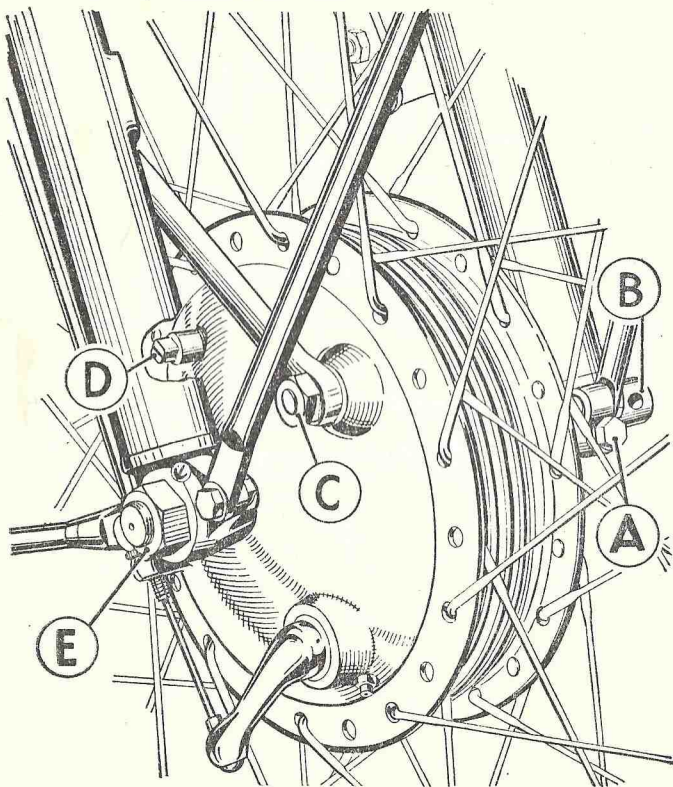
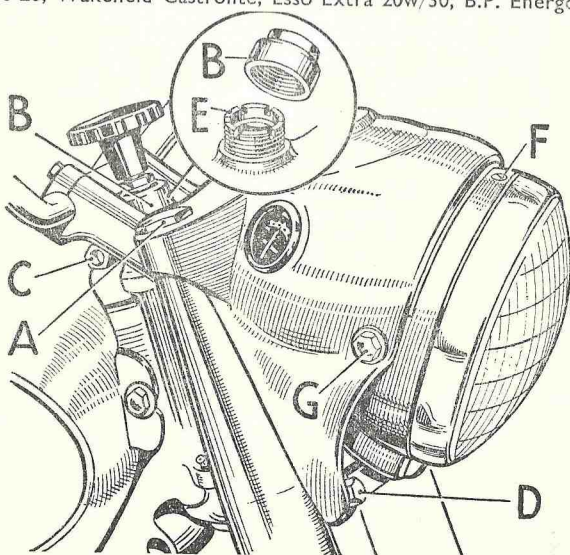

Fig. 17. Front Wheel Removal.
Fig. 21. Front Fork and Steering Head.
Brake adjustment does not involve interfering with the operating cables, since the adjustment is made at the brake shoe fulcrum. (Note: The adjusters on the brake cables are for original assembly). Apply a screwdriver or spanner to the adjusting pin (seen at D Fig. 17) and turn in a clockwise direction. The adjuster turns in
To remove the front wheel from the forks, take off the nut (C) Fig. 17, from the cover plate, disconnect the brake cable, then slacken the pinch bolt (A). Remove the nut (E), this has a right-hand thread and unscrews in an anti-clockwise direction. Then insert a tommy bar into the hole in the head of the spindle at (B), and pull the spindle. As the spindle is withdrawn support the weight of the wheel; when it is clear the wheel can be pulled away from the right-hand fork leg and removed from the machine.
Remove the plug (A) Fig. 21, and the drain plug in the lower end of the fork sliding member (see Fig. 17).
Unscrew the steering damper (Competition models) and remove the chromium plated top cap (B) Fig. 21. Slacken the clamping nut (C), then tighten down the sleeve (E) until the adjustment is correct. Hold the handlebars lightly and move them round slowly. The steering should be free, and the forks must rotate smoothly. If the movement is "lumpy" it is a sign that the adjustment is too tight, or that the ball races are damaged. When the adjustment is correct tighten the clamping nut (C), replace the cap (B) and the steering damper.
To remove the two yokes and the steering stem from the frame, undo the clamping nut (C) Fig. 21. Remove the steering damper knob and the cap (B). Unscrew the sleeve (E) until it comes free, and then lift off the top yoke. Take care that the balls from the head bearings are not lost when the head is loosened.